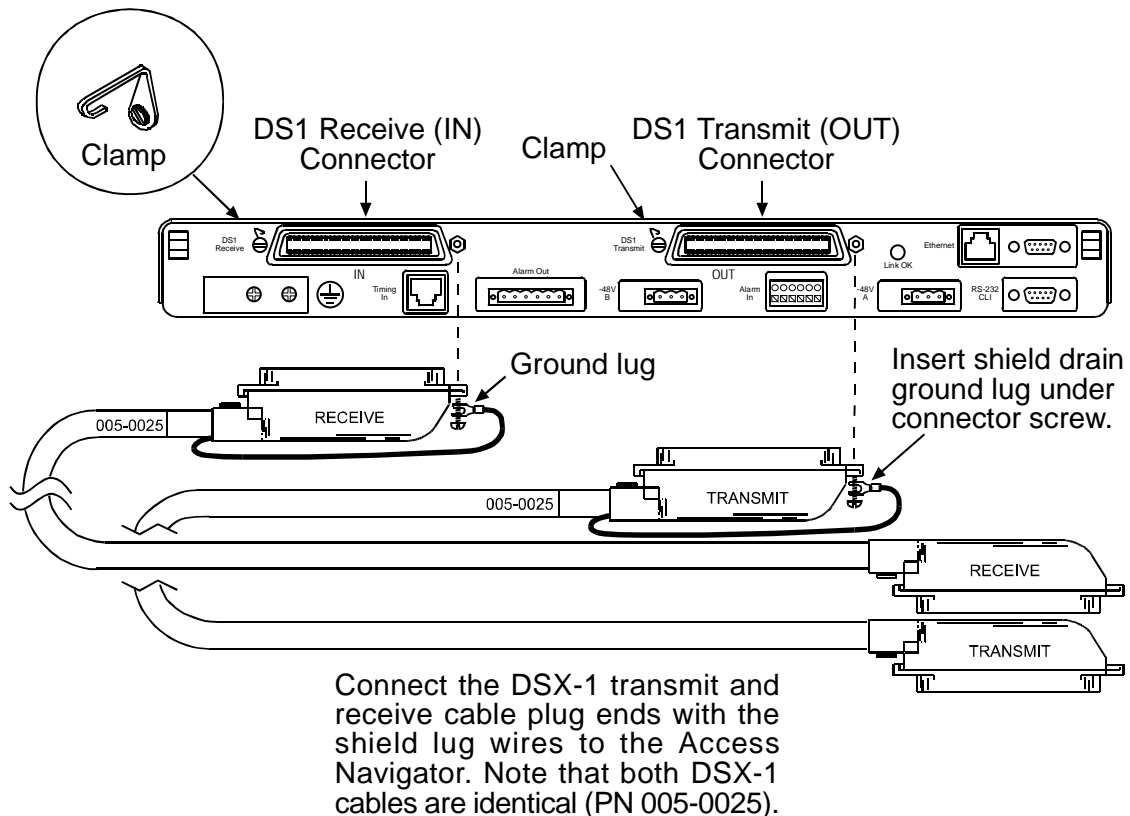

Figure 6-5. Location of Rear Panel DS1 Connectors
1. Refer to Figure 6-5.
2. Remove locking screw, if any, from DS1 Receive (IN) connector (see Figure 6-5).
3. Plug receive DSX-1 cable into DS1 Receive (IN) connector and snap clamp over cable side of connector.
6. Connect DSX-1 transmit (output) interface cable to Access Navigator (see Figure 6-5).